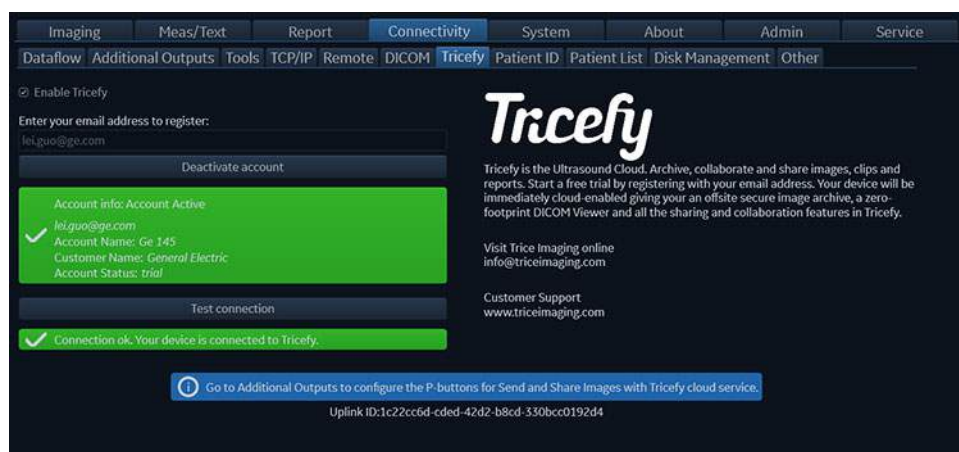

Figure 10-46. The Tricify Screen
The *Tricefy* screen is displayed (see Figure 10-46).
- After the account is successfully registered, press the **Test Connection** button. The account information is displayed, indicating account name, customer name and account status (see Figure 10-46).